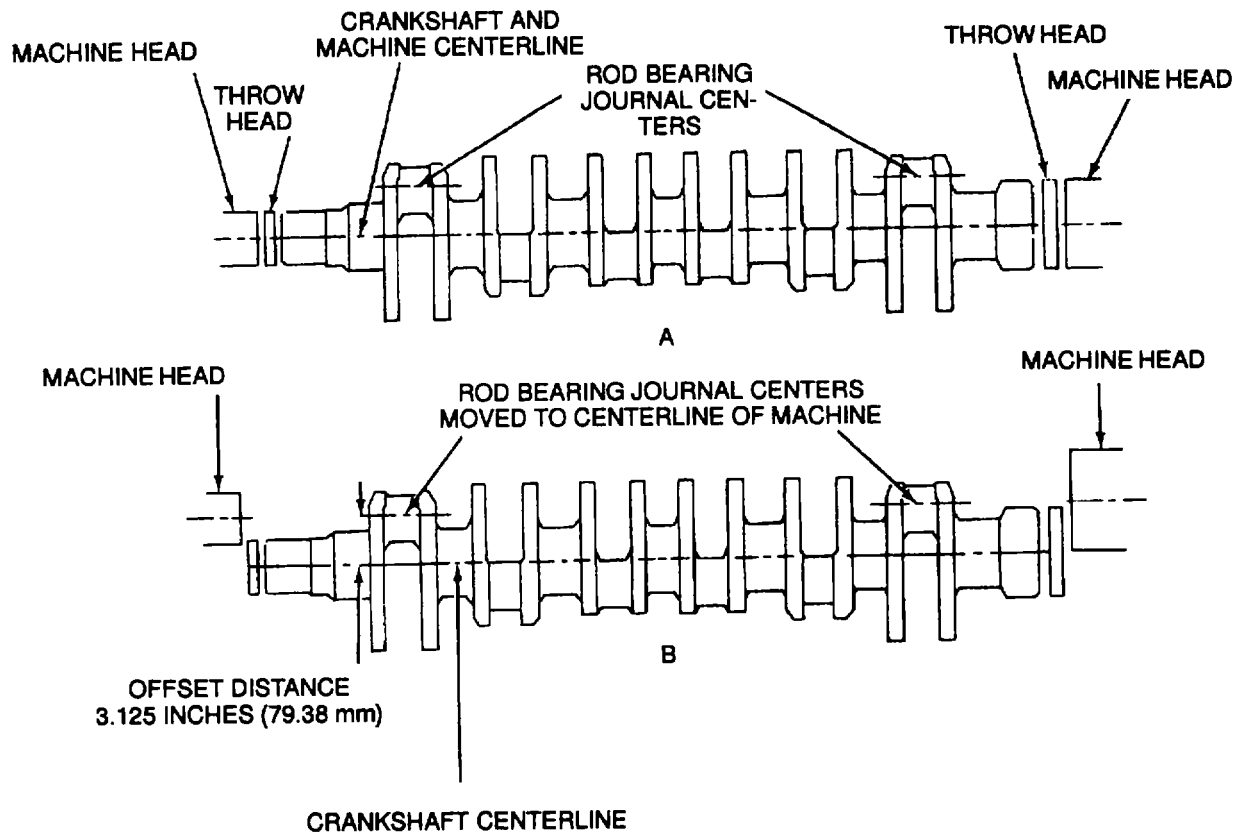

Figure 9-50. Crankshaft Offset To Grind Connecting Rod Bearing Journals
- (3) Using a dial indicator, check the centers on the head stock and tail stock of the crankshaft grinding machine for runout. Both head stock and tail stock must be on center within 0.001 inch (0.03 mm) TIR.
- (4) Adjust the tail stock of the grinding machine to accommodate the length of the crankshaft.
- (5) Adjust the crankshaft grinding machine to grind the rod bearing journals by offsetting both the head stock and the tail stock 3.125 inch (79.38 mm). Offsetting the head stock and tail stock allows the rod bearing journals of the crankshaft to turn about the centerline of the grinding machine (B, Figure 9-50).
- (6) Because the crankshaft will be offset in the machine while grinding the rod bearing journals, it will be necessary to counterbalance the crankshaft with an equal amount of weight. Adjust the counterweights on the crankshaft grinding machine to counterbalance the crankshaft.
- (7) Adjust the indicator on the Arnold gage to the proper journal dimension to monitor the amount of material being removed from the journal.
- (8) Mount the crankshaft in the grinding machine. Locate and lock both throw heads at 0 index. Position the crankshaft in the machine with the No.1 throw (or whichever throw is to be ground first) at top center. Use a horizontal vee gage to ensure accuracy, and damp the crankshaft in position. When the throw heads of the machine are released, the crankshaft should center on the rod bearing journals.
- (9) Set up the rod bearing journal to be ground using a dial indicator. To obtain an accurate reading, the crankshaft must be rotating in the machine at the speed at which it will be ground. This is important because the weight of the crankshaft is off center, and the crankshaft will tend to bow during rotation. When the grinding machine throw heads are moved to make an adjustment, both heads must be moved the same amount. This will maintain parallelism and taper within specifications. The rod bearing journals shall be on center to within 0.001 inch (0.03 mm) TIR.
- (24) Move the head stock and tail stock alternately and evenly, and relocate the main bearing centerline of the crankshaft to the centerline of the crankshaft grinding machine (A, Figure 9-50).